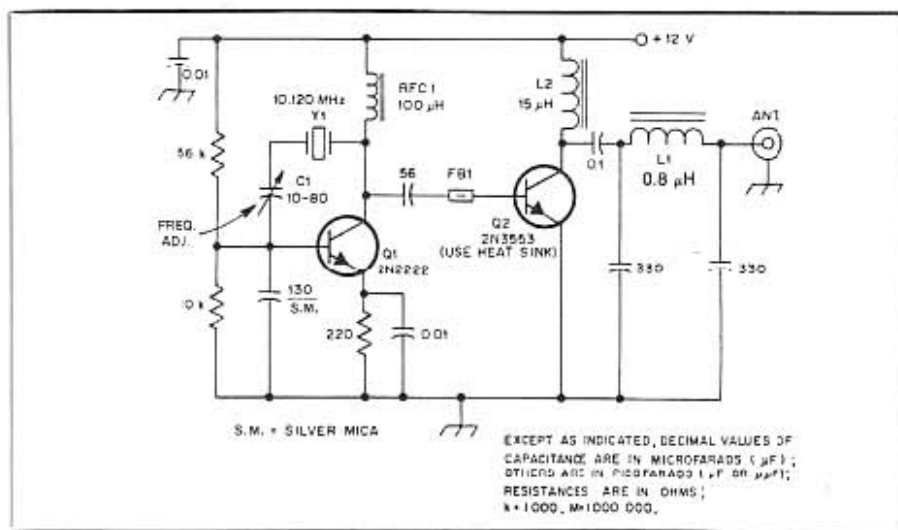

Fig. 1 — Schematic diagram of a simple 30-m transmitter built by KB4PY. Resistors are 1/4-W, carbon-composition types. Capacitors are disc ceramic, except C1.
The FCC purity of emissions requirement is more liberal at power outputs under 5 W. A five-section low-pass filter (FL1 of Fig 1) is ample to comply with regulations. A seven-element filter would offer greater attenuation of the 2nd and 3rd harmonics, should that be your desire. My filter constants were obtained from the normalized filter tables in the transmitting chapter of *The ARRL Handbook*. I chose an f_{co} (cutoff frequency) of 8 MHz. The ripple factor is 0.01 for FL1. The ripple indicates the relative flatness (lack of amplitude dips and peaks) of the peak portion of the filter response curve.
You will note in Fig 1 that a TR (transmit-receive) circuit is included. Q3 is a PNP dc switch that applies operating voltage to Q1 when the key is closed. Key closure shorts the base of Q3 to ground, and this causes it to conduct. During conduction, +12 V is connected to Q1 through the junction of Q3. The keyed +12 V is routed also to NPN switch Q4. This transistor also conducts when the key is closed. At full saturation the Q4 collector-emitter junction closes and this shorts the receive antenna line to ground through Q4. D2 and D3 also accomplish this function, but leave a residual RF voltage of 0.7 V RMS on the receive line. The shunt-diode
Waveform shaping is accomplished in Fig 1 by means of C16, C17, R11 and R12. Bypass capacitors in the keyed circuit (such as C5 and C15) also affect the shaping.
The shaping-network values in Fig 1 ensure a keyed waveform that is clickless, but hard enough to give "presence" to the CW note. The frequency-control values for the VXO in Fig 1 prevent the signal from sounding chirpy when the VXO is keyed by Q3.
Fig 1—A schematic diagram of the QRP transmitter for 30-meter operation. Fixed-value capacitors are disc ceramic. Inductor cores are available from Amidon Associates or Palomar Engineers.^{1,2} The enclosure is from Radio Shack® (RS-270-251), and the circuit board is from Circuit Board Specialists.³ An etching pattern for this circuit appears on p 11.
□ Fig 1 shows an inexpensive transmitter for the 30-meter band. The combination of excellent propagation characteristics and a relatively low QRM level on this band make solid communication routine at QRP levels. The circuit shown was adapted from a W7ZOI design shown in "Experimenting for the Beginner" by Doug DeMaw, W1FB, in the September 1981 issue of QST. The transmitter can be put on 30 meters with relative ease.
came up with the one shown at Fig. 1. The circuit is simple and inexpensive. It uses fundamental-type crystals in FT-243 holders, which are easy to obtain from a variety of sources. The transmitter output is almost 1.5 W, and the harmonics are 34 dB down from the fundamental. With a reasonably stocked junk box the total cost for this transmitter should be under \$10.